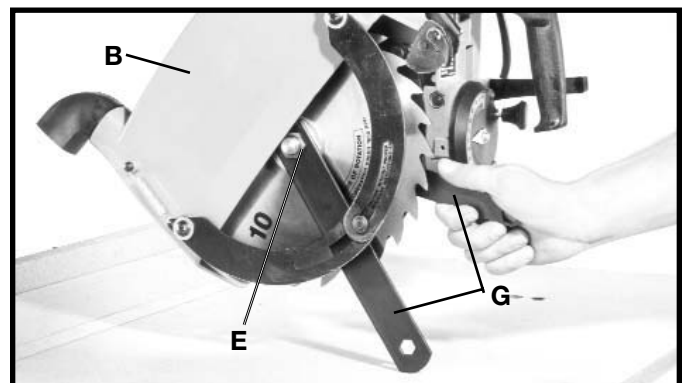

Fig. 47
6. Pull back on blade guard (B) Fig. 47, so that it rotates to the rear, and tighten arbor nut (E) using two wrenches (G) supplied. Place the 7/8" box wrench around the arbor nut (E), and place the 7/8" open end wrench on the flat on the arbor, to hold the arbor while removing the arbor nut.